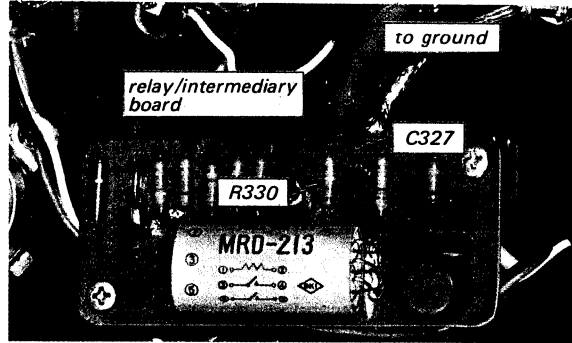

Fig. 3-2 Interruption of afc circuit
5. Short the connection point of R330 and C327 on the relay/intermediary board (AFC circuit) to ground as shown in Fig. 3-2.
3. Short the connection point of R330 and C327 on the relay/intermediary board (AFC circuit) to ground as shown in Fig. 3-2.
2. Short the connection point of R330 and C327 (AFC circuit) to ground as shown in Fig. 3-2.